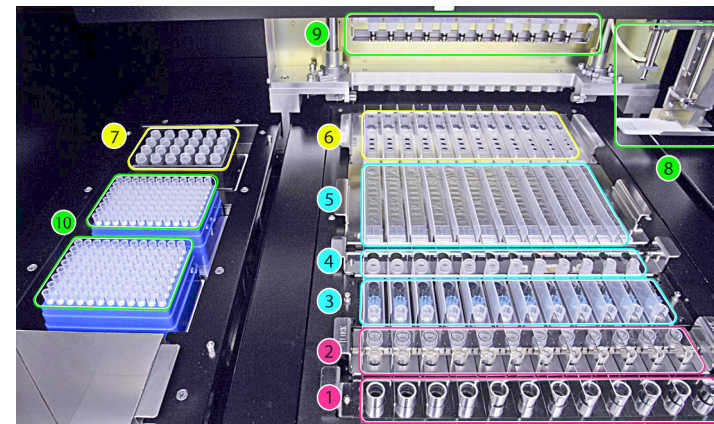
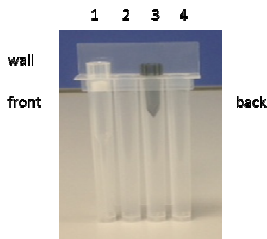

Figure 1: The «**ELITE InGenius**» loading area
Figure 11: Tips disposition on Tip Cassette
An overview of the «**ELITE InGenius**» instrument is shown in Figure 1.
Figure 1 shows: Primary tube rack position (1), Sonication/Extraction tube and cap rack position (2), Tip rack position (3), Elution tube rack position (Extra Tube) (4), Extraction cartridge rack position (5) and PCR cartridge rack position (6), PCR and Internal Control reagent block (inventory manager) position (7), sample and reagent dispensing (8, 9), the waste box (left-bottom) and tips positions (10).
7. To confirm that sufficient reagents for the number of tests selected are placed in the inventory manager position 7 (cfr. page 11, Figure 1) as indicated on the screen, press the "Next" button.
8. Place sufficient Tips racks in position 10 (cfr. page 11, Figure 1).
10. Place the PCR cassettes indicated in position 6 (cfr. page 11, Figure 1).
12. Place the Extraction cartridge cassette(s) indicated in position 5 (cfr. Page 11, Figure 1).
14. Place the amount of elution tubes Extra Tube, indicated in position 4 (cfr. page 11, Figure 1).
- Place the amount of Tip cassettes indicated in position 3 (cf. page 11, Figure 1). Ensure that the Tip (1) and the piercer (3) are placed as shown in the picture below (Figure 11).
- Place the amount of extraction tubes indicated in position 2 (cf. page 11, Figure 1).
- When "Primary Tube" has been selected as sample position in the "Perform Run" screen, place the Primary Tubes indicated in position 1 (cf. page 11, Figure 1).